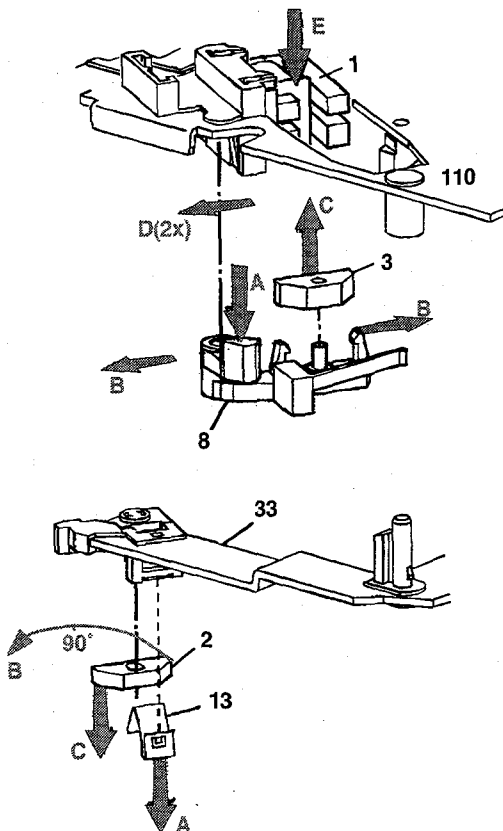

Fig. 4
- 2.9 Take off anchor spring (13), rotate anchor (2) 90°degrees to take it out (fig.4-A,B,C)
3. Capstan motor (32)
- 6.3 Release plastic clamps of magnet holder and press magnet out from top of the chassis (fig.4-E)
7. Driving belt (30), flywheels (23) and bearings (70)